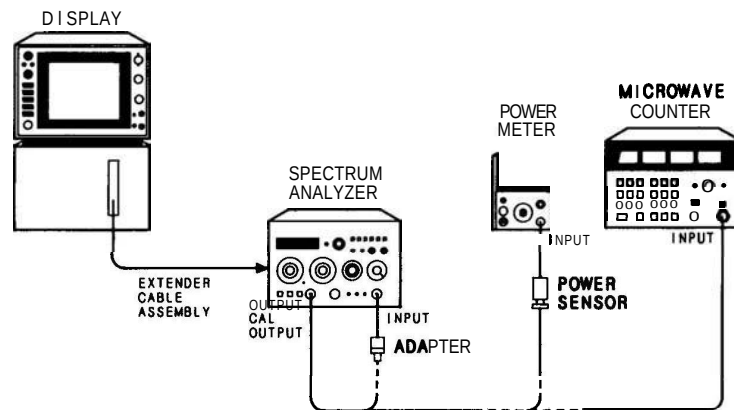

FIGURE 5-20. CAL OUTPUT AND REF LEVEL CAL ADJUSTMENT TEST SETUP
2. Connect power meter/power sensor to front-panel CAL OUTPUT connector as shown in Figure 5-20.